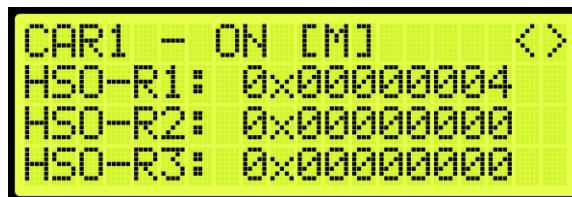

Figure 370: Rear Hall Security Map Status
10. From the Rear Hall Security Map Status (See Figure 370), press the right button.
11. From the Rear Hall Security Map Status (See Figure 370), press the right button.